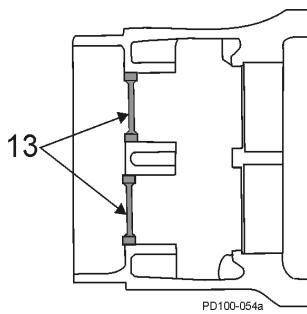

Figure 43 - Remove rear oil seals
9. Press out and discard both rear oil seals in the gear case (Figure 43, item 13).